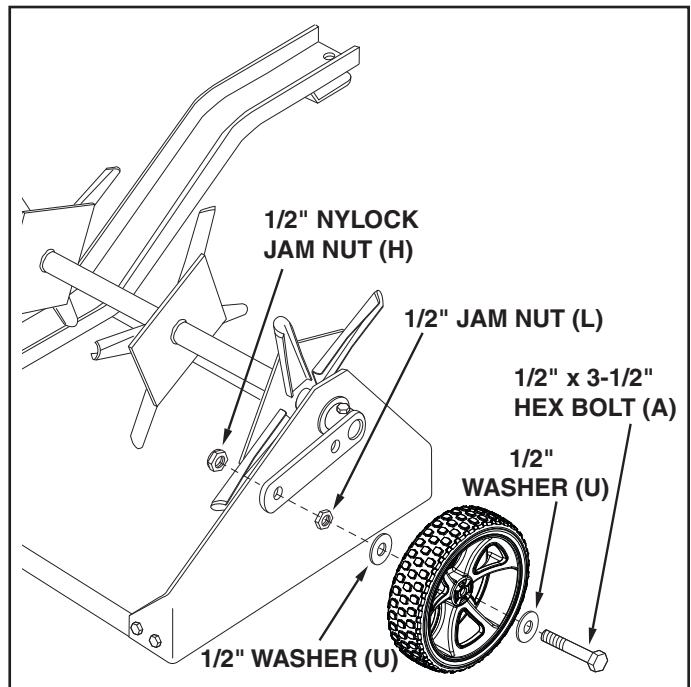

FIGURE 9
14. Assemble a wheel to a wheel bracket as shown in figure 9. Use a 1/2" x 3-1/2" hex bolt (A), two 1/2" washers (U), one 1/2" hex jam nut (L), and one 1/2" nylock jam nut (H). Adjust the nuts so that the wheel is held securely with minimum end play but will spin freely. Repeat on other side. See figure 9.